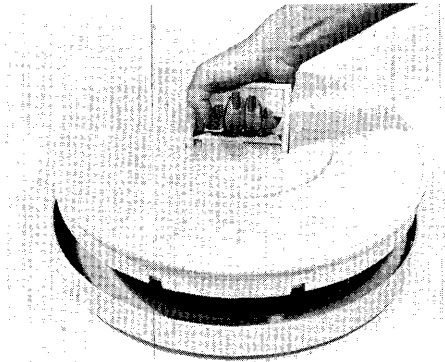

Figure 3-11. Cartridge Unloading, Top Load Models
- (6) Carefully lift the cartridge out of the adapter bowl and place it into the cartridge cover as shown in Figure 3-11.
- (7) Press the cartridge handle into the cartridge cover recess and release; this causes the cartridge hub to engage the cover, thus securing the disk.